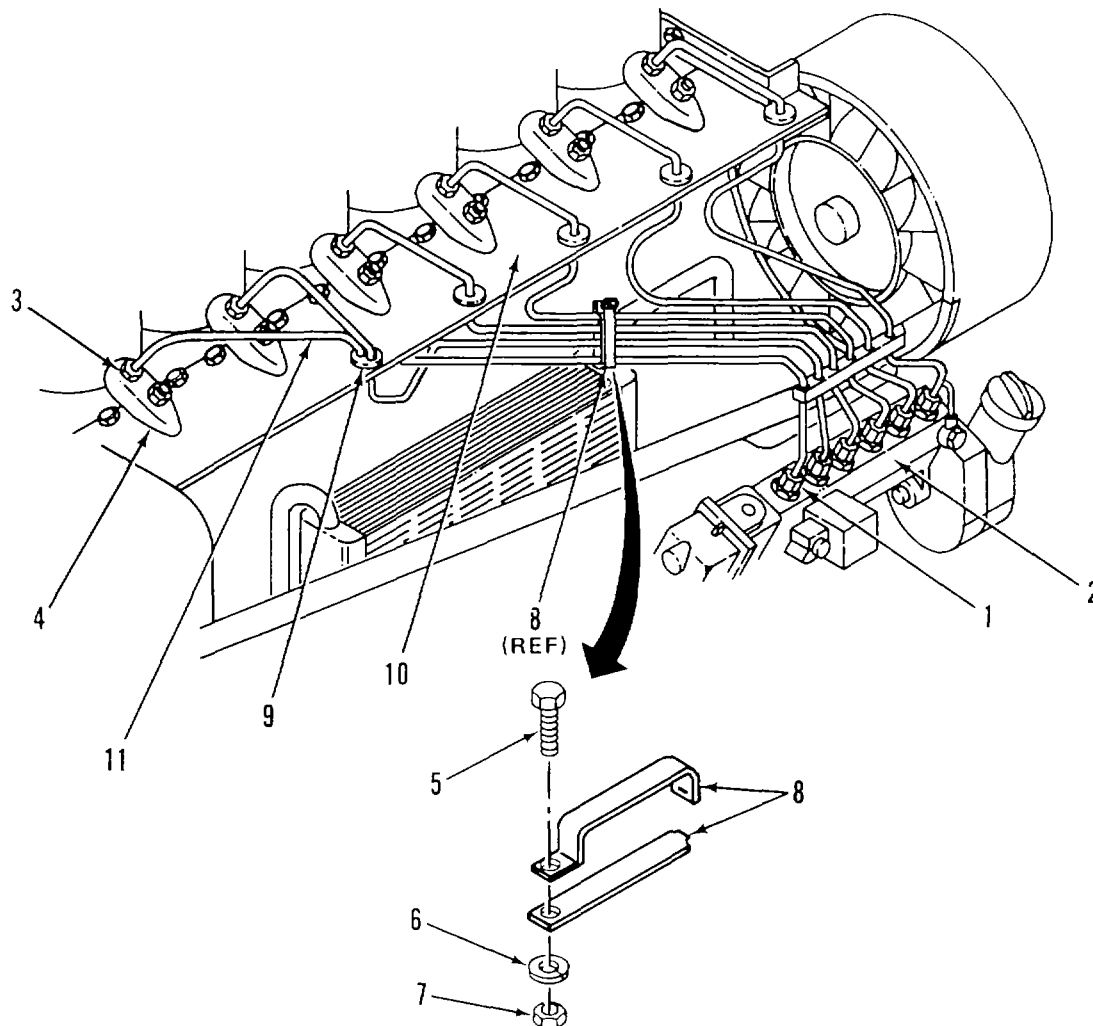

Figure 2-37. Fuel Injector Line
- (c) Disconnect six fuel injection line nuts (1) from fuel injection pump (2).
- (d) Disconnect fuel injection line nuts (3) from each of the six fuel injectors (4).
- (e) Disconnect fuel leak off lines at injector (4) and fuel injection pump by removing banjo bolts and seals.
- (f) Remove nut (5), flat washer (6), flat washer (7), and bolt (8) that secure cowling mounting plate (9) to air duct front wall (10).
- (g) Remove two bolts (11), lockwashers (12), and flat washers (13) on each side of each of the six injectors (4) that secure cowling mounting plate (9).
- (h) Lift air cowling plate (9) with fuel injection lines (14) from engine.
- (2) If one fuel injection line is to be removed, perform the following (Figure 2-37):
- (2) Install one fuel injection line that was removed singularly as follows (Figure 2-37):
- (a) Feed fuel injection line (11) into its slot on the cowling mounting plate (10).
- (b) Install grommet (9) on fuel injection line (11). Then push grommet (9) into its slot on cowling mounting plate (10).
- (c) Install each line clamp (8) on fuel injection lines with lockwasher (6), nut (7), and bolt (5).
- (d) Connect but do not tighten fuel injection line nut (3) to fuel injector (4).
- (e) Connect fuel injection line nut (1) at fitting of fuel injection pump (2).